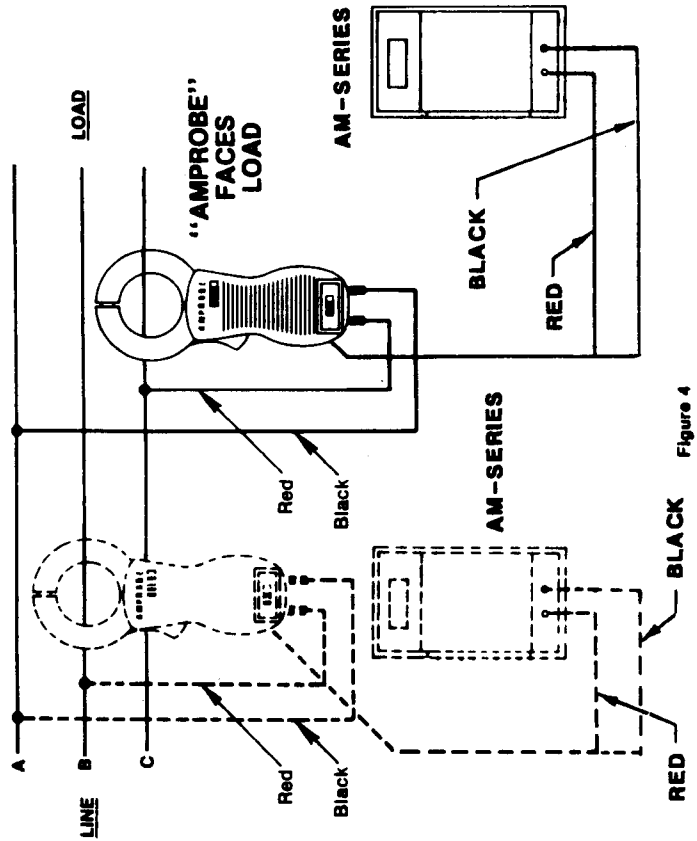

Figure 4
- 1) Take two readings with the AW-80/81 connected in the two positions as shown in Figure 4. (If two sets of instruments are available they may be connected and read at the same time.) Add the two Multimeter readings algebraically.